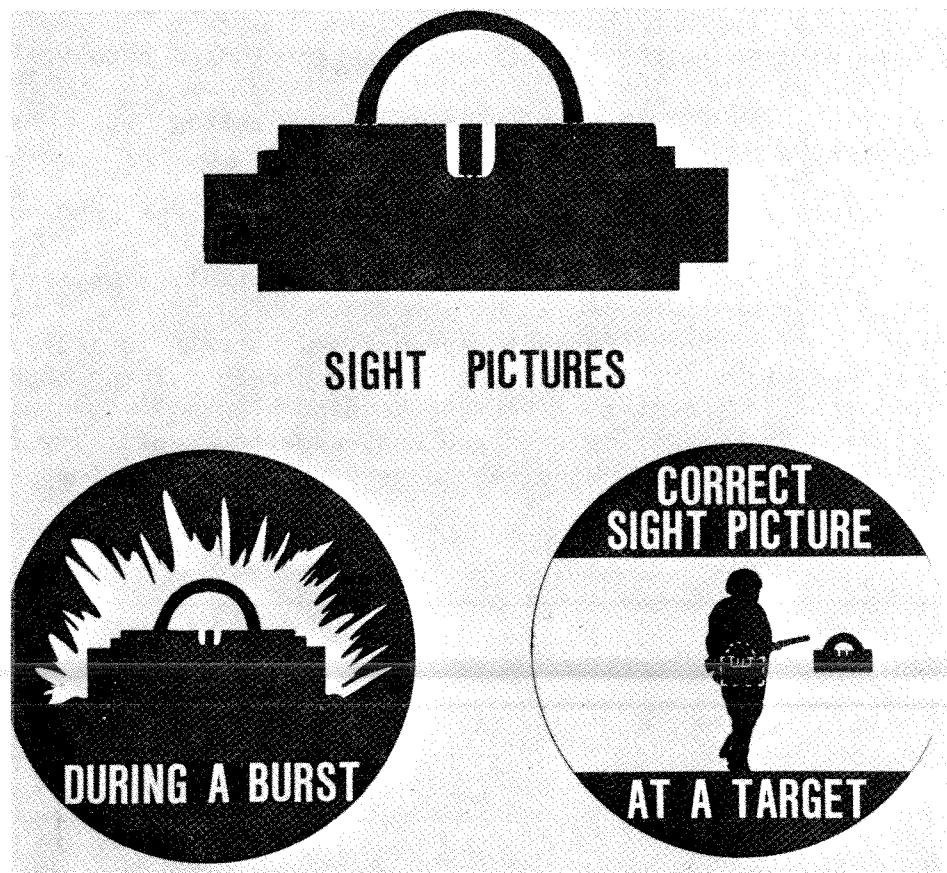

Figure 2-11. Sight picture for PKM machine gun.
b. During adjustment of the sights of the PKM machine gun, a proper sight picture should be maintained at all times (fig. 2-11).